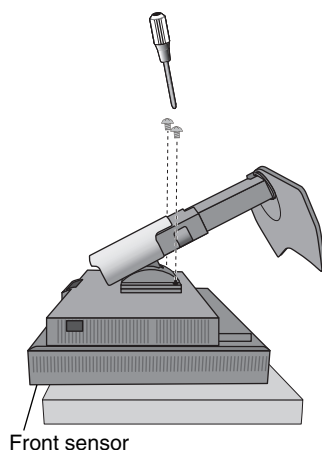

Figure S.2
4. Place the monitor face down on a non-abrasive surface. Be sure to not apply any stress or pressure to the front sensor. To avoid this, lay the monitor face down on a desk or table with the front sensor situated off the edge (**Figure S.2**).
7. Remove the 4 screws connecting the monitor to the stand. Remove 2 bottom screws first (**Figure S.2**).